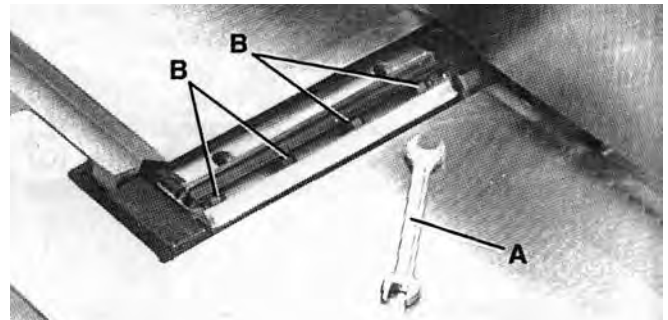
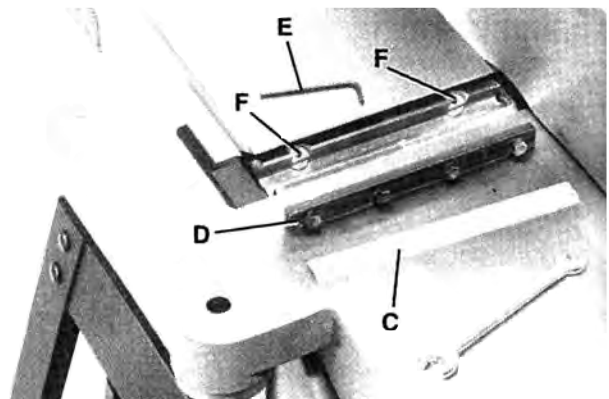
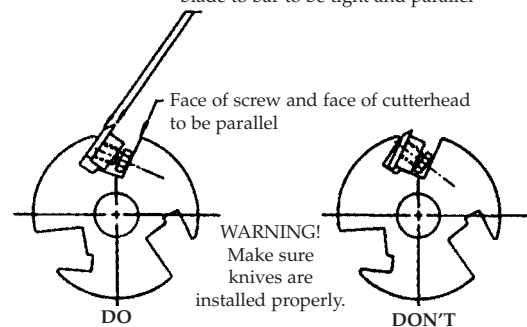

FIGURE 48
FIGURE 49
FIGURE 50
3. Using wrench (A) Fig. 48, slightly loosen the four locking screws (B) in each knife slot by turning the screws (B) clockwise. This relieves stress in the cutterhead.
4. Loosen screws (B) Fig. 48, further and remove knife and knife locking bar.
5. Fig. 49 illustrates the knife (C) and knife locking bar (D) removed from the cutterhead. Remove the remaining two knives and locking bars, in the same manner.
6. Using hex. key (E) Fig. 49, lower the two knife adjustment blocks by turning screws (F) counterclockwise in all three slots of the cutterhead.
8. Replace the knife locking bars (D) Fig. 49 and knives (C) into each slot in the cutterhead. **WARNING: CARE MUST BE TAKEN WHEN INSERTING THE KNIVES AS THE CUTTING EDGES ARE VERY SHARP.** Push the knife down as far as possible and snug up the screws (B) Fig. 48, by turning each screw counterclockwise just enough to hold the knife in position. Replace the remaining two knives in the same manner. **NOTE: KNIVES MUST BE INSTALLED CORRECTLY AS SHOWN IN FIG. 50.**